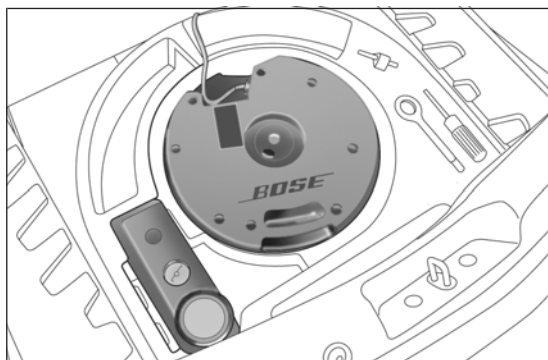

fig. 130
- take the "Fix&Go Automatic Kit" located on the left side of the luggage compartment (fig. 130);
IMPORTANT If you need to remove the subwoofer follow the indications shown on the adhesive label fig. 130 over the subwoofer itself to reposition it correctly.